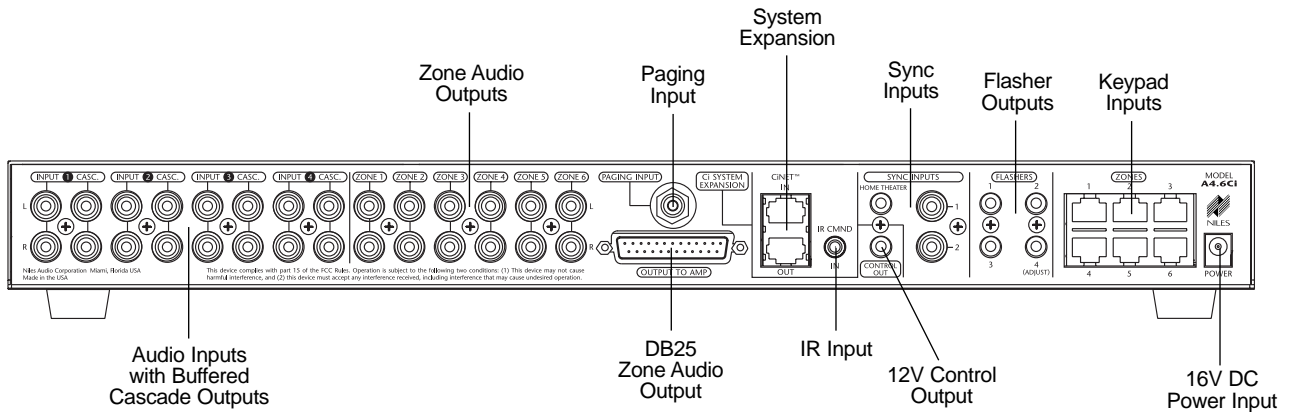

Figure 4 A4.6Ci Rear Panel
1. Synchronized IR - In Figure 4, the DSS receiver's power ON/OFF is synchronized via a video signal connected to the A4.6Ci. When the Master Key/Source Button for the DSS is pressed, the A4.6Ci checks for a video signal at the Sync Input corresponding to the DSS. **The A4.6Ci issues the power command to turn the DSS ON only when no video signal is present and the DSS is OFF.**
2. Latching Power - In Figure 4, AC power to the DVD and CD changer is turned on and off via the switched AC outlets of a Niles AC-3. The AC-3 is activated by the 12V control output of the A4.6Ci when any one of the six zones is ON (including the Home Theater Zone sharing sources).